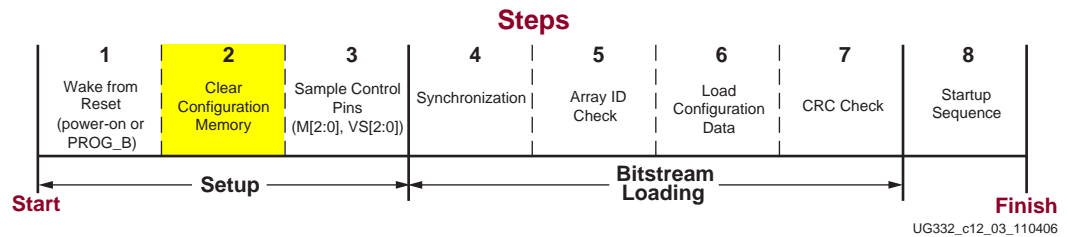

Figure 12-5: Clear Configuration Memory (Initialization)
2. Hold the **INIT_B** pin Low during initialization, which stalls the configuration process in Step 2 shown in Figure 12-5, page 235. However, after the FPGA releases **INIT_B** High, the application cannot subsequently delay configuration by pulling **INIT_B** Low.